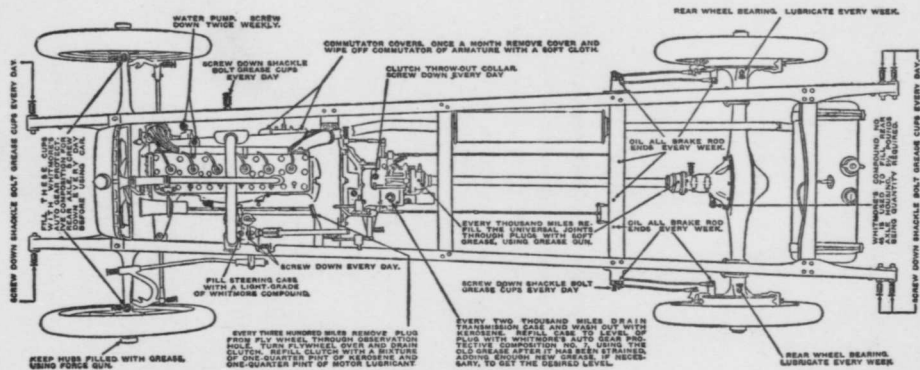

Fig. 56.—The lubricating chart of a Hudson Car.
Further, when you buy a car you will get a *lubricating chart* with it, as shown in Fig. 56, only larger. This chart is a top view of the chassis which shows at a glance where (1) either oil or grease is to be used; (2) how much of the lubricant is to be used and (3) how often it is to be used. Make your lubricating chart instructions a fetish and your reward will be great in the days when your neighbor's car is in the scrap heap.